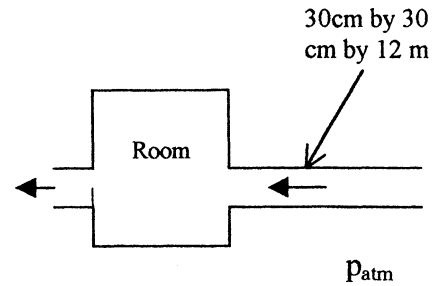

Fig. P6.92
**6.92** A large room uses a fan to draw in atmospheric air at 20°C through a 30 cm by 30 cm commercial-steel duct 12 m long, as in Fig. P6.92. Estimate (a) the air flow rate in m3/hr if the room pressure is 10 Pa vacuum; and (b) the room pressure if the flow rate is 1200 m3/hr. Neglect minor losses.